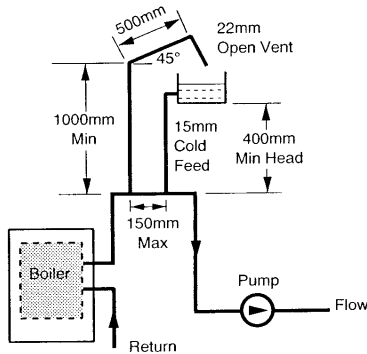

Fig. 5 Typical Low Head Installation
1. Using a close coupled arrangement the minimum head is as shown in the diagrams (Figs. 5 & 6) subject to the following conditions: